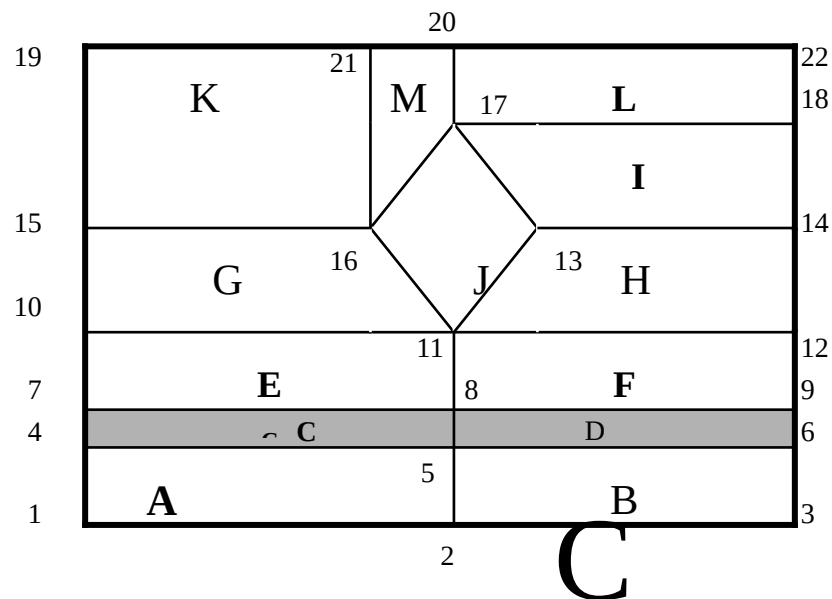

Figure 7.10: Division of the Device Structure into Simple Polygons connected to each other through corner points
1. Subdivide the device into a collective of quadrilaterals as shown in Figure 7.10: Division of the Device Structure into Simple Polygons connected to each other through corner points We will draw each polygon in the order ABCDE ... For convenient reference, we label each corner point with integers 1,2,3...